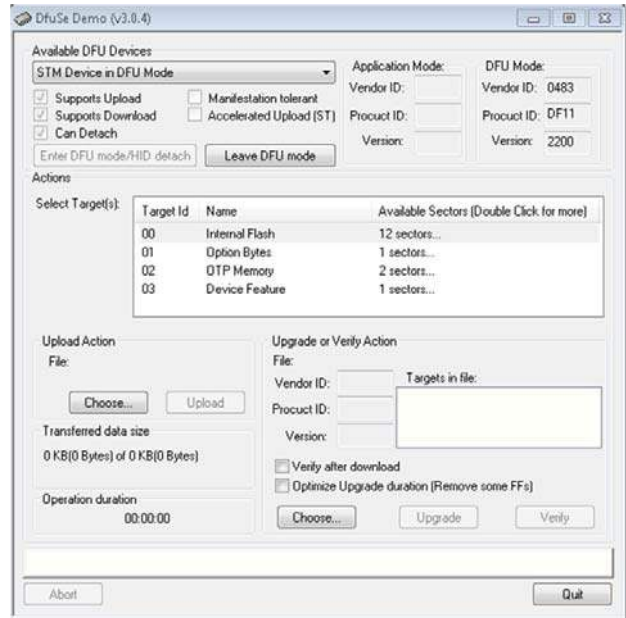

Figure 8. **DfuSe** Demo Settings
6. Open the **DfuSe Demo** by going to **Start** > **All Programs** > **STMicroelectronics** > **DfuSe** > **DfuSe Demo**. Figure 8 shows the **DfuSe** demo settings at startup.